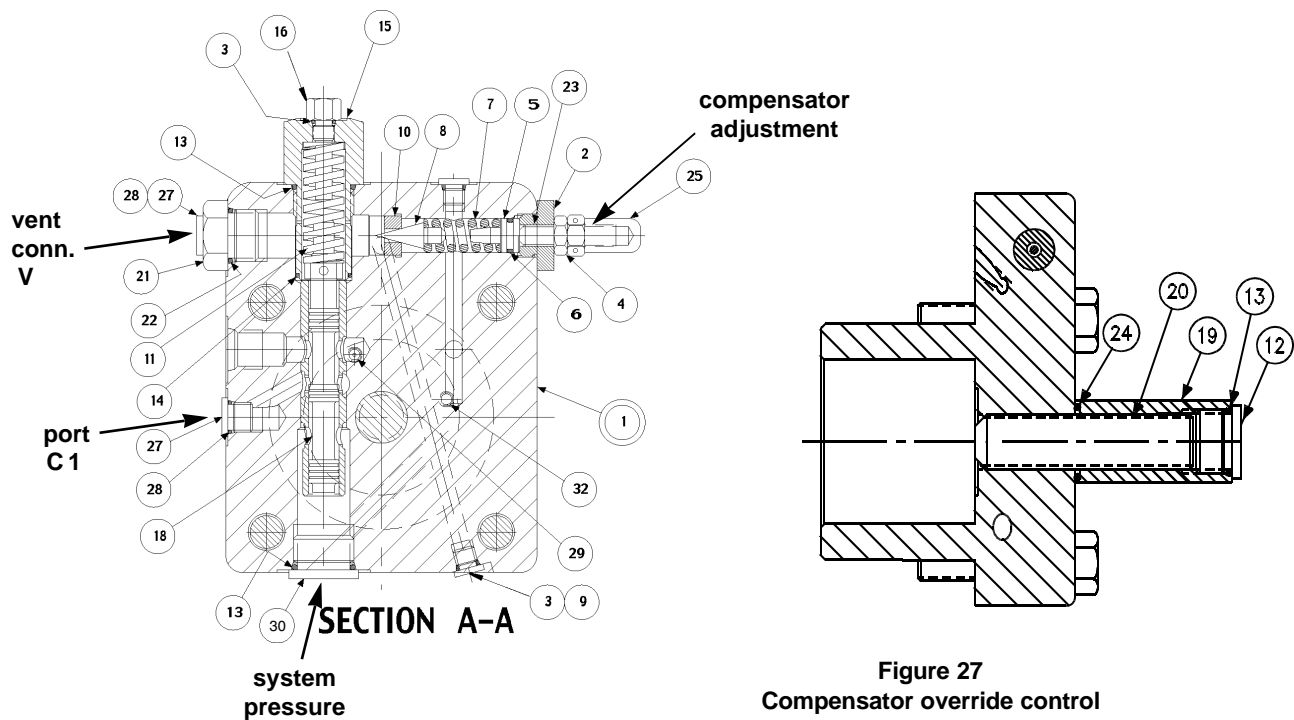

Figure 27
PARTS LIST FOR FIGURE 27
1. See Figure 27. Remove tube line to cap.
2. Remove maximum volume stop assembly (items 12, 13, 19, 20, 24).
4. Remove plug (15) and attached parts. Remove spring (11) and spool (18).
5. Remove adjusting plug (2) and attached parts. Remove seal piston (5). Note: a 10-24 screw may be attached to assist in pulling the piston. Remove spring (7) and cone (8).
6. Do not remove sleeve in body (1). Sleeve is pressed into cap and finished to size. If sleeve, snout or cap is worn, replace the cap-sleeve assembly (1).
7. Examine seat (10) for wear. Do not remove unless damaged.
Ref. Figure 27